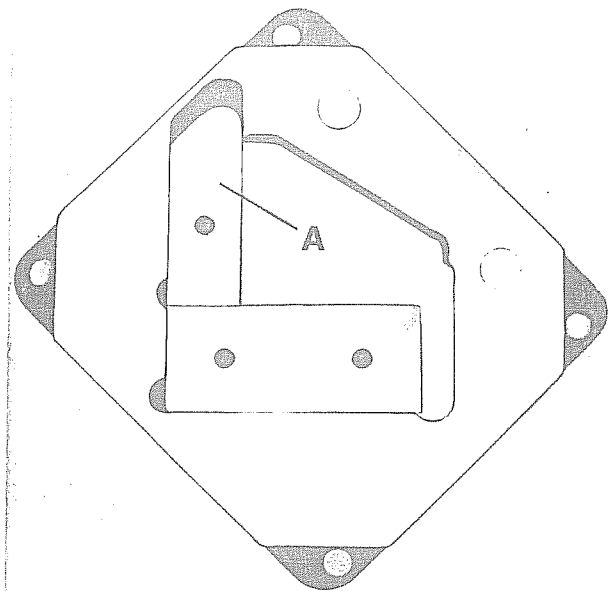

Fig. 35: PMG section blade, stationary
- a) Disassembling the section blades according to instructions given under item 1.
- b) For disassembling the sliding blades "A" and "B"(see fig. 35 and 36).
- e) Install the section blades acc. to the instruction, item 2.